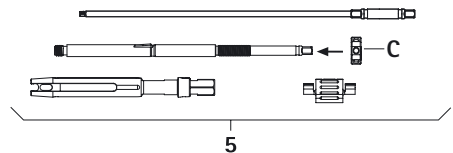

Fig. 9
- Screw lock nut C onto the inner sleeve, see Fig. 9.